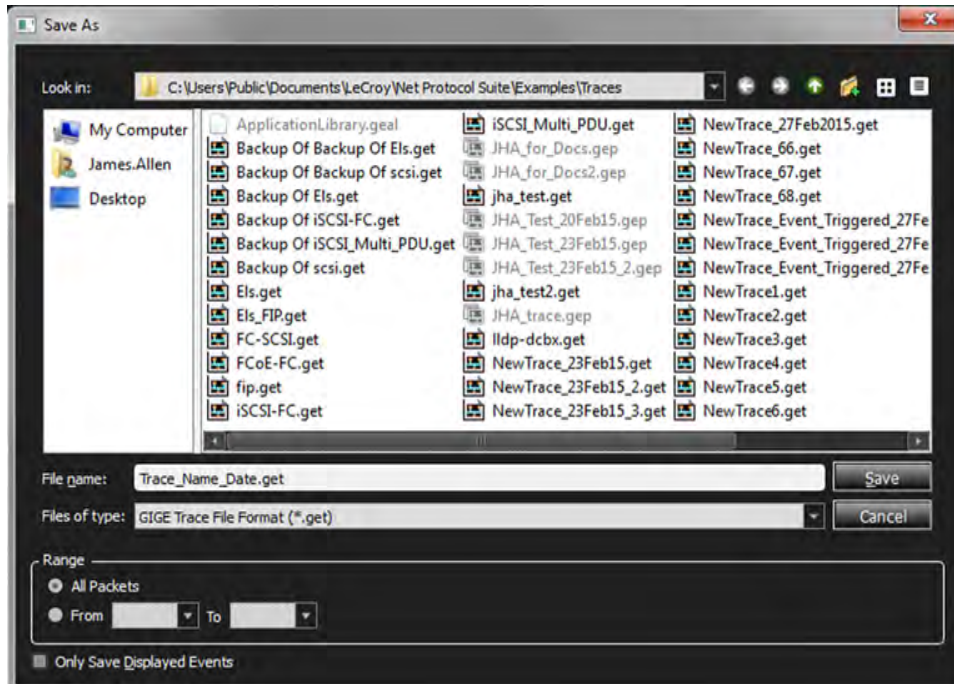

Figure 4.56: Saving a Trace File on Host Computer
- A window appears showing a path to the location of the Saved Trace (Figure 4.56). There is a default label for the Trace, but you can change it if needed.